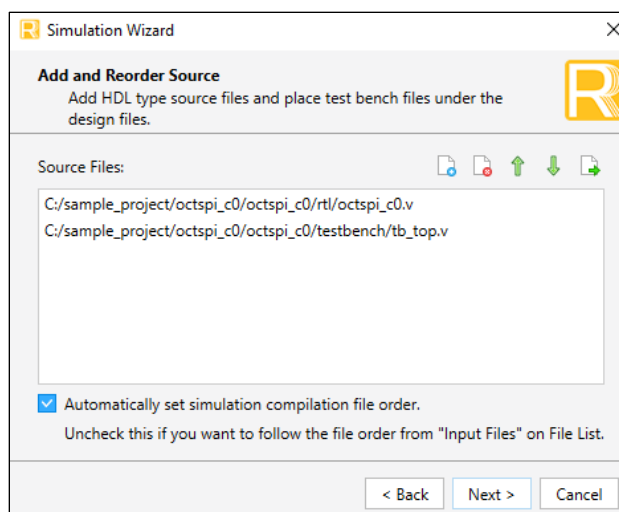

Figure 7.11. Add and Reorder Source
- Click **Next** to open the **Add and Reorder Source** window as shown in Figure 7.11. Note that only two files are listed, *tb_top.v* and the generated IP wrapper file. If there are other files, they must be removed. Otherwise, this may cause a failure in the compilation and simulation.